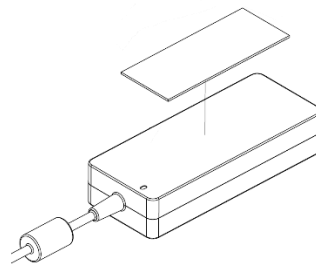

Figure 6-4 Sticking the magnetic tape to the power supply
- Remove the foil protecting the glue layer from the magnetic tape. Stick the tape in the middle of the power supply on the power indicator side, as presented in Figure 6-4.